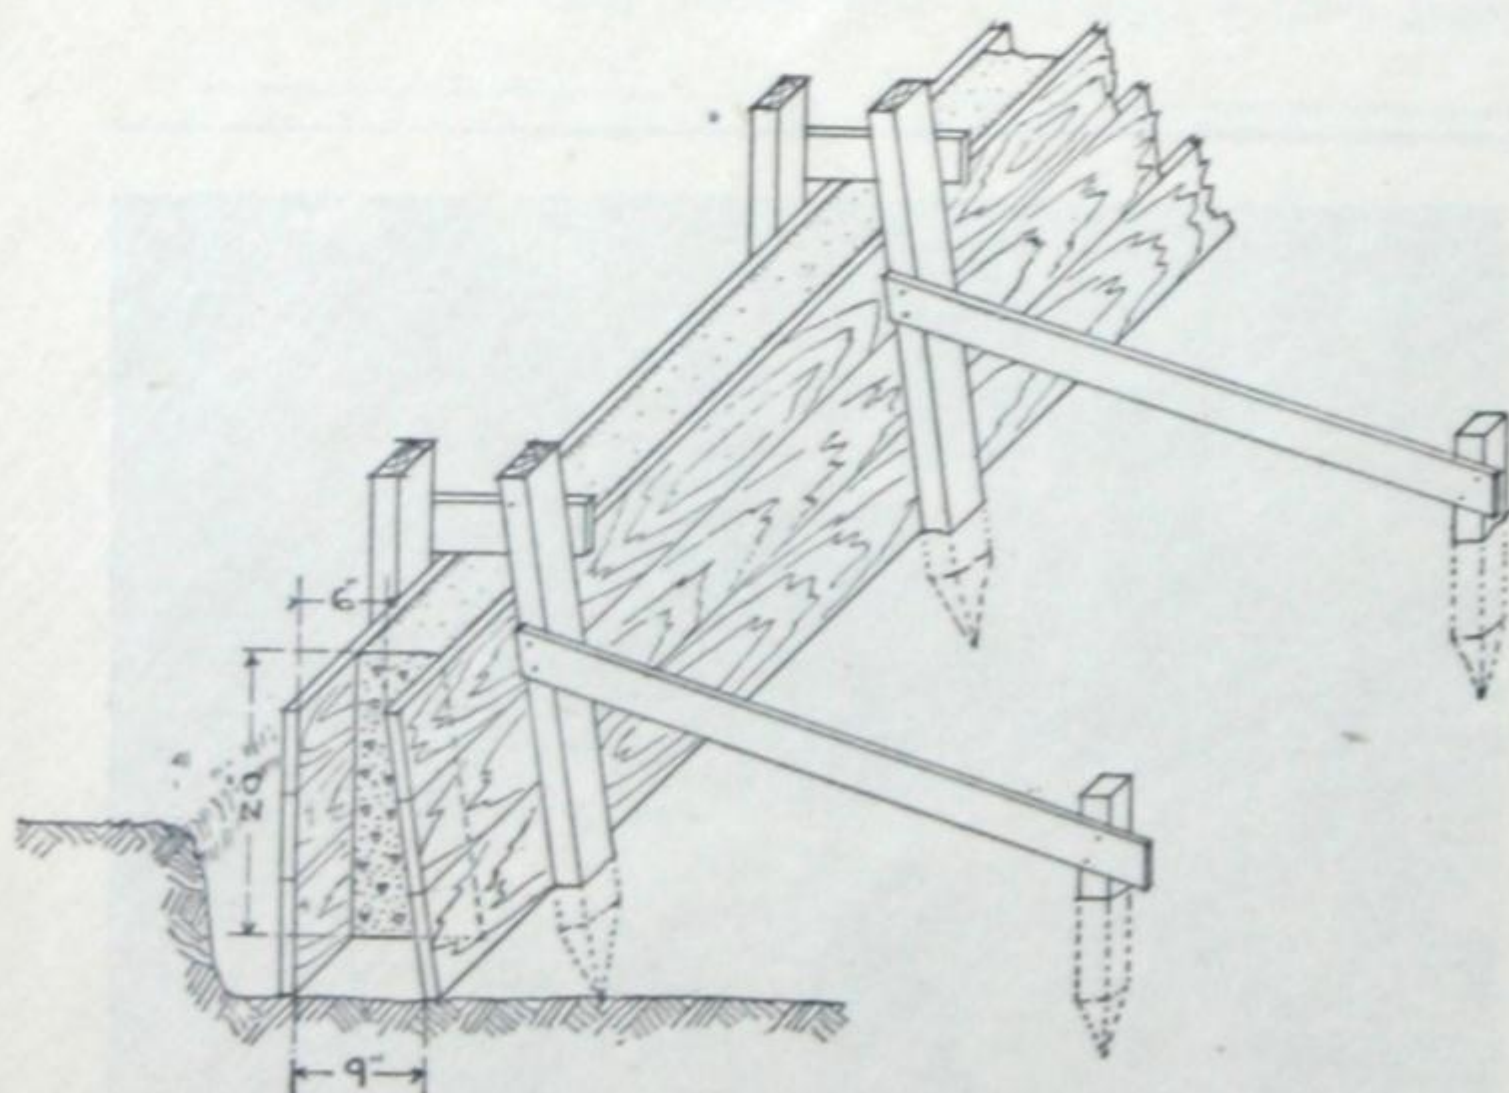
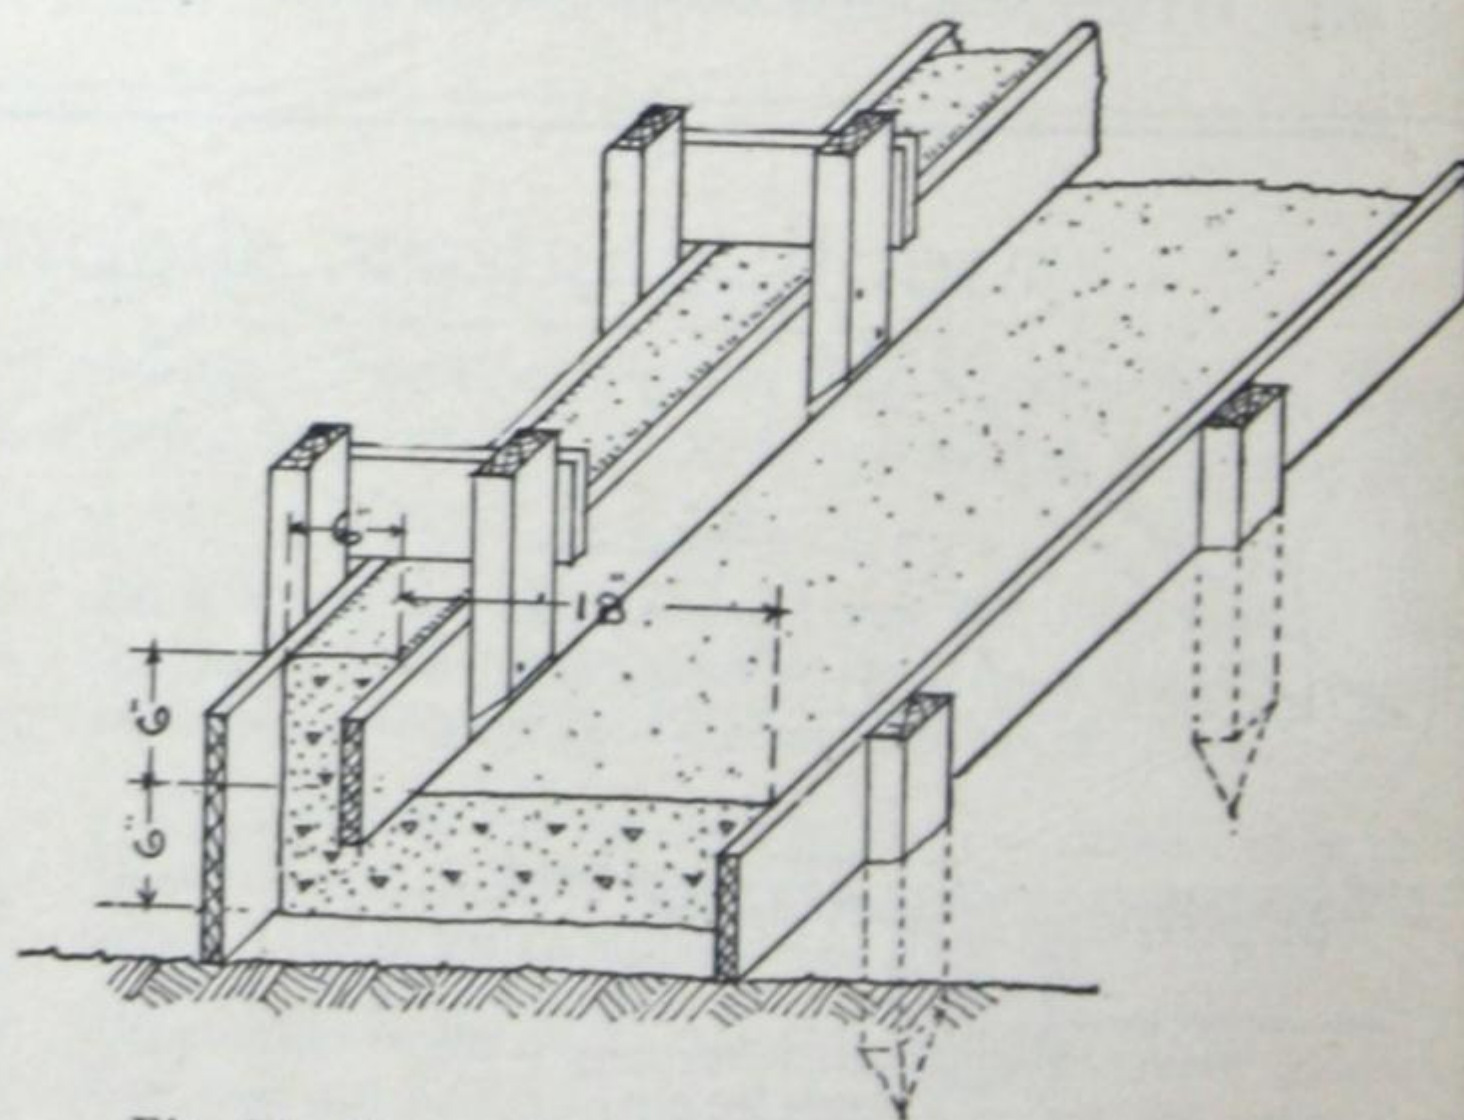

Fig. 73—Forms, bracing and dimensions for single curb.
Fig. 74—Forms for combined curb and gutter.
The inside form for this curb is a 2-by-4-inch board held in position by overhanging cleats from the stakes of outside forms. See Fig. 74, page 38, in the description of curbs.
*Types*—There are two types—the single curb, and the combined curb and gutter. Their construction is identical, the difference being in their shape. The single curb is usually built 6 to 8 inches thick at the top, and 9 to 12 inches thick at the bottom, and 18 to 24 inches deep. The side next to the walk is vertical, and the side facing the gutter is at a slight angle—see Figure 73, which also shows how forms are constructed and braced. For dimensions of the combined curb and gutter—and the construction of forms—see Figure 74.
*Quantities required*—For every 100 feet length of curb, such as shown in Figure 73, using the above mixture, there will be needed 24 bags of Atlas Cement, 48 cubic feet of sand, and 96 feet of gravel or crushed stone. For the same length of curb and gutter, made as in Figure 74, you will need 30 bags Atlas Cement, 60 cubic feet of sand, and 120 cubic feet of gravel or crushed stone.